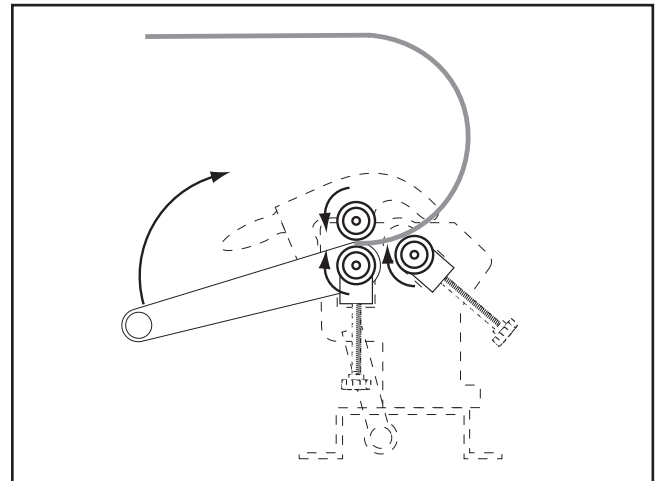

Figure 23. Processing the workpiece.
4. Turn the crank to process the material through the slip roll. Continue turning until the workpiece is completely through the top and bottom rollers (**Figure 23**).